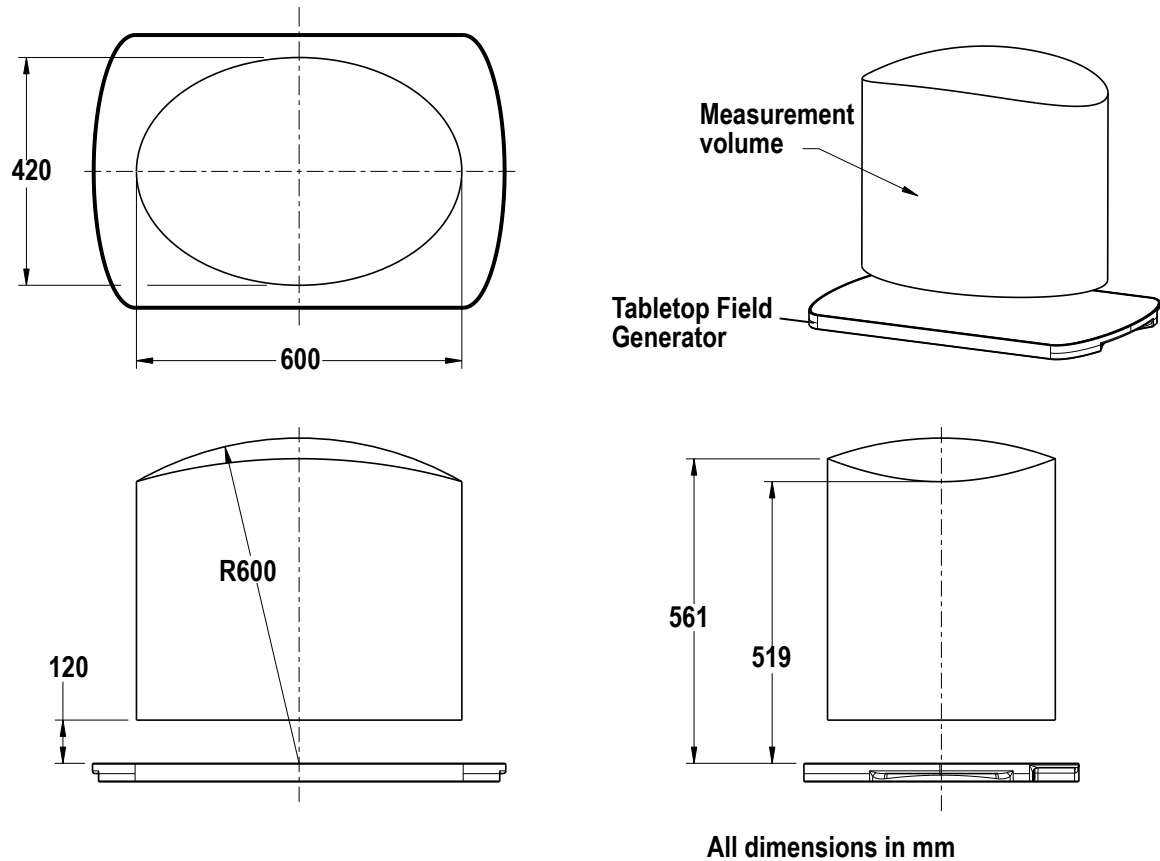

Figure 4-2 Table Top Field Generator Measurement Volume
The Tabletop Field Generator contains a number of large coils that generate known electromagnetic fields as previously described. The measurement volume is illustrated in Figure 4-2. The volume is projected outwards from the Field Generator's front face, offset by 120 mm from the Field Generator.
5. Orient the Field Generator so that the measurement volume encompasses the area of interest (area where the tools will be tracked; refer to Figure 4-2 on page 23).